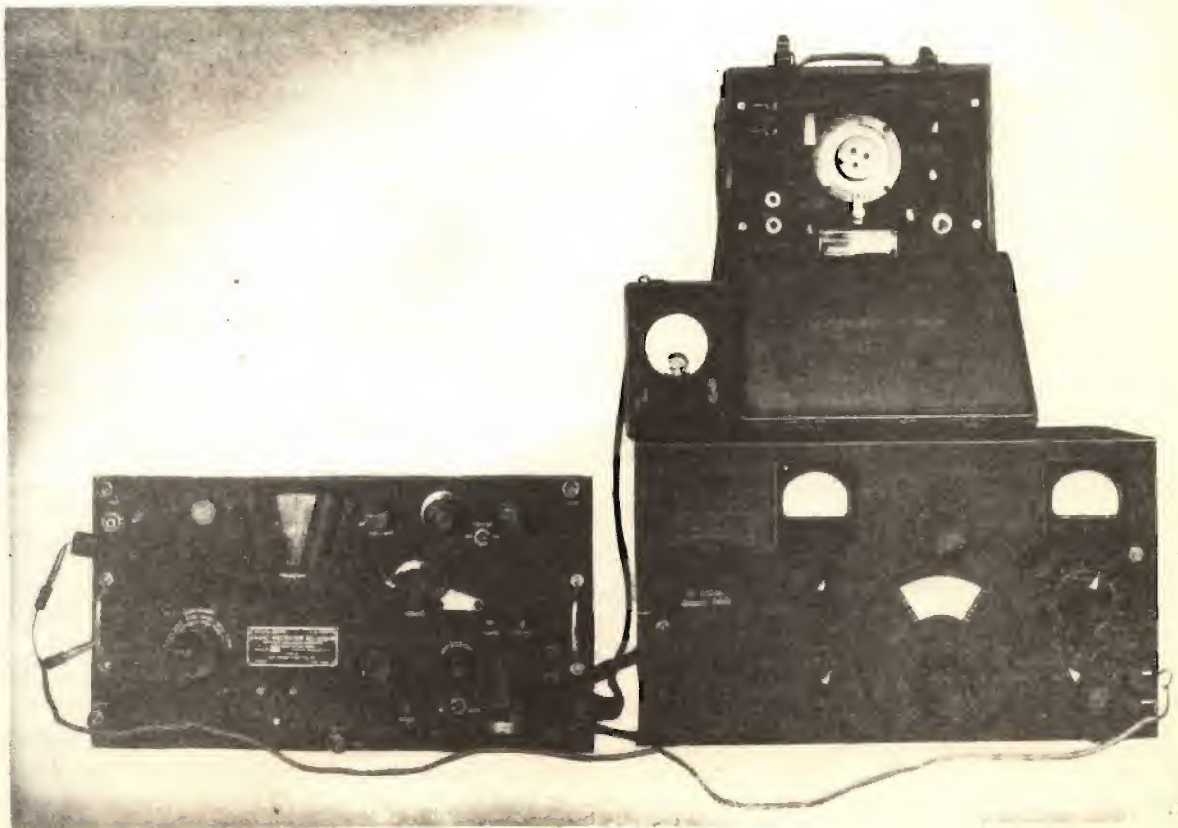

Figure 20. Final testing, typical set-up.
(1) Set up the receiver and test equipment as shown in figure 20.
(2) Connect one lead of a 50-mmf capacitor to the receiver antenna terminal and the other lead to the output lead of the signal generator.
(3) Connect the signal generator ground lead to the receiver chassis.
(4) Connect the output meter to the SPEAKER 2D AUDIO jack. If a vacuum-tube voltmeter is used, place a 4,000-ohm non-inductive resistor across the output of transformer T2; measure the output across the resistor.
(5) Turn the receiver VOL. control to maximum, the OFF-M. V. C.-A. V. C. switch to M. V. C., the CRYSTAL PHASING control to OUT, and the C. W.-OSC. switch to OFF.
(6) Set the signal generator for 30 percent modulation at 400 cycles.
(7) Tune the signal generator and receiver to 1.5 megacycles (1500 kc).
(8) Set the ALIGN INPUT control for maximum indication on output meter.
(9) Set the signal generator output attenuator to produce a reading on the output meter.
(10) Turn off the modulation of the signal generator.
(11) Turn the VOL. control counterclockwise until the output meter reads 3.3 volts. Should the output meter read 3.3 volts or less, leave VOL. control at maximum.